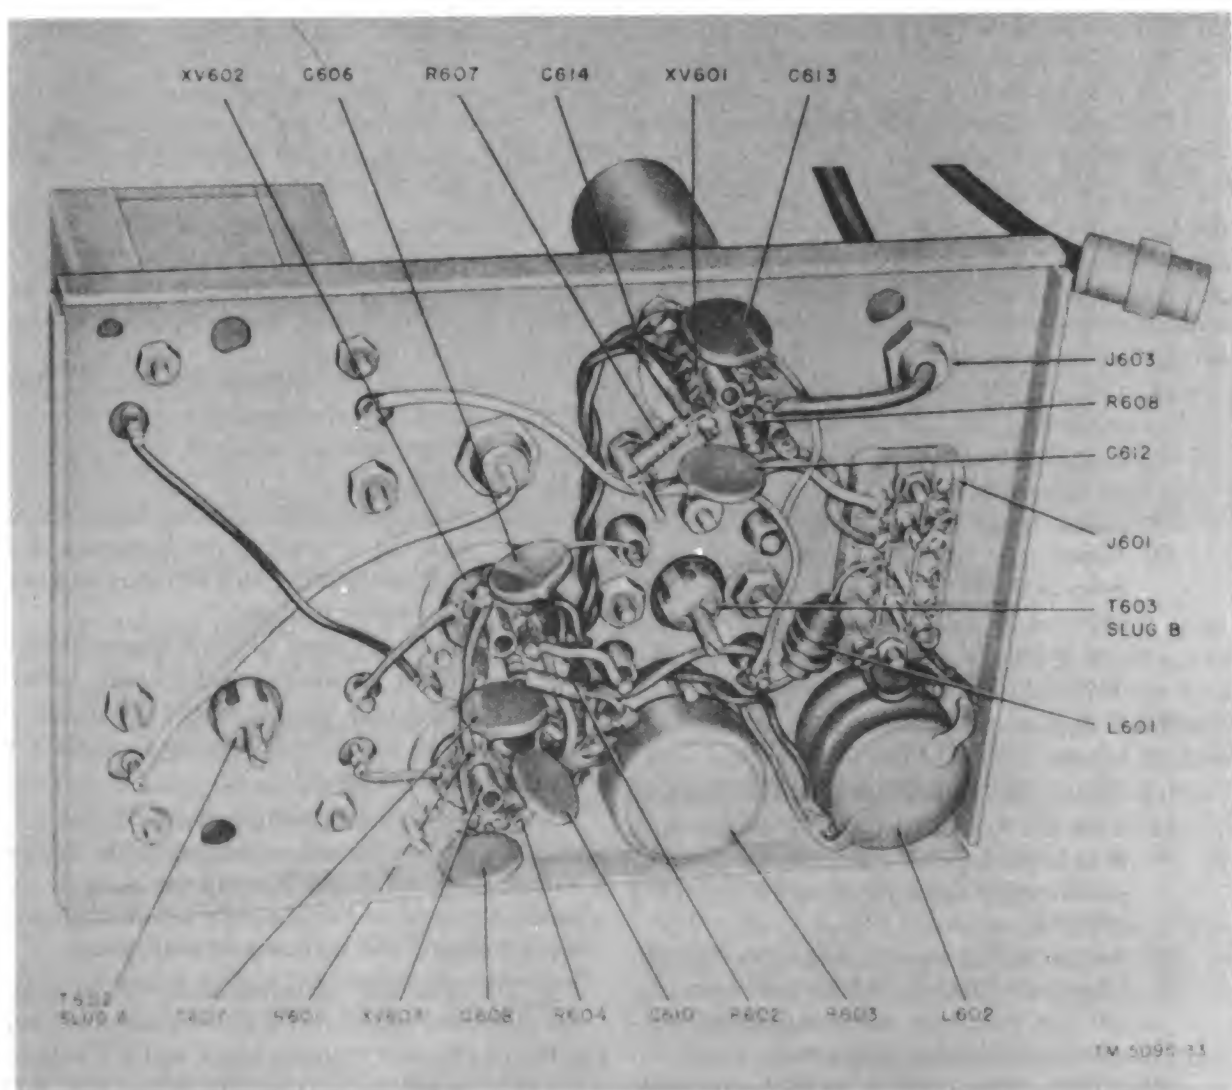

Figure 36. Frequency Meter FR-5/U, balanced modulator, location of parts, bottom view.
- (1) Set the POWER switch to the on position.
- (2) Set the oscillator (FINE tuning) dial to 416.6 kc.
- (3) Connect the receiver antenna terminals in series with a 30-db attenuator pad and the output of the balanced modulator jack J603 (fig. 36).
- (4) Tune the receiver for maximum output at 416.6 kc and note the output level on the receiver *S* meter.
- (5) Disconnect the 30-db attenuator pad from the receiver.
- (6) Connect the signal generator to the antenna terminals of the receiver.
- (7) Adjust the signal generator frequency to 416.6 kc and set its output to provide the same receiver output level as that obtained in (4) above.
- (8) Make a note of the signal generator output level as the desired signal output and